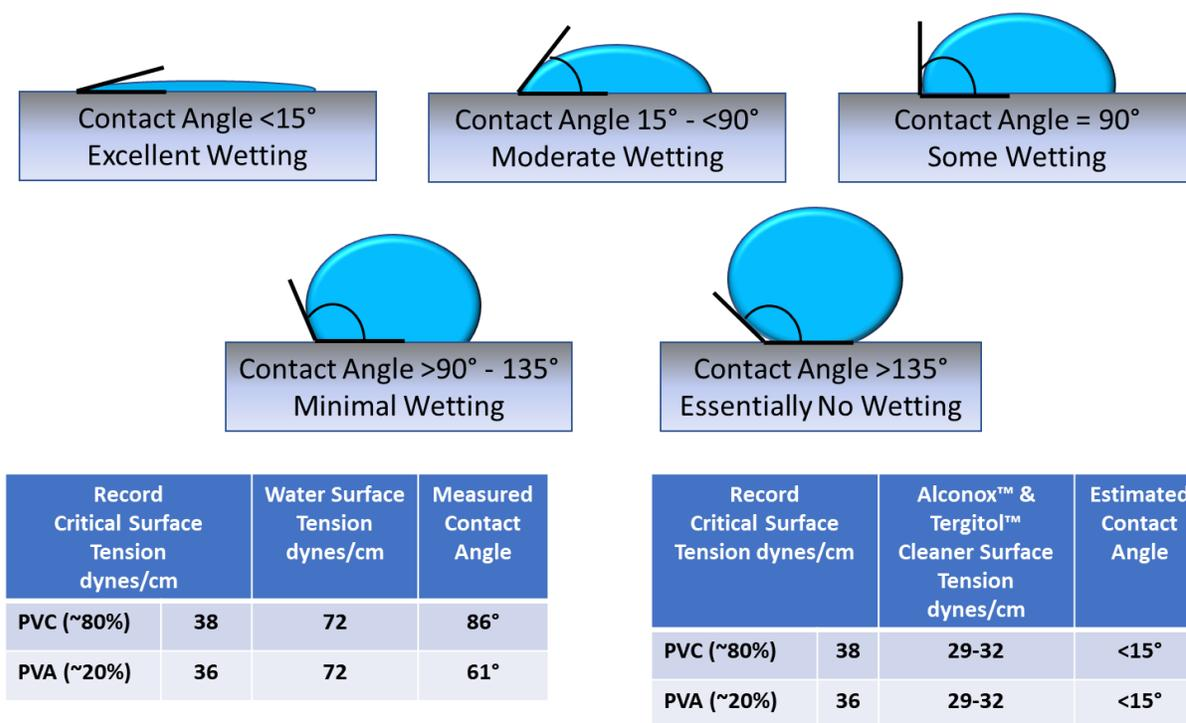

Figure 35 – Contact Angles and Wetting
VIII.3 Supporting the discussion of surfactants, is the concept of ‘wetting’. All fluids have a surface tension measured in dynes/cm (English units); *“the attractive force exerted upon the surface molecules of a liquid by the molecules beneath that tends to draw the surface molecules into the bulk of the liquid and makes the liquid assume the shape having the least surface area.”* All solids have surface energy that is likewise measured in dynes/cm and is often called “critical surface tension”. Most metals have a very high critical surface tension (copper = 1360 dynes/cm), much larger than the surface tension of water (72 dynes/cm). But the PVC/PVA in a record is very low at 38/36 dynes/cm; much lower than water. When a fluid is placed on a solid surface, depending on the difference in surface tensions (and other factors), the fluid will form a contact angle with the surface, and this is illustrated in **Figure 35**.
- VIII.3.3 However, in **Figure 35**, the critical surface tension of the record's materials is much less than water, and the large contact angle produced by water is consistent with **Figure 23** that shows DIW beads-up when sprayed on the clean record.